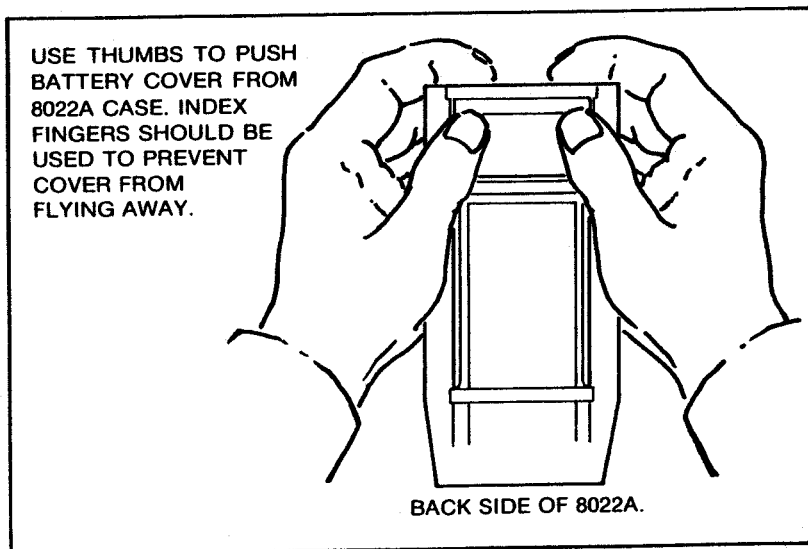

Figure 2-1. Removing Battery Cover
3. Open the battery compartment on the bottom of the 8022A using the method shown in Figure 2-1.